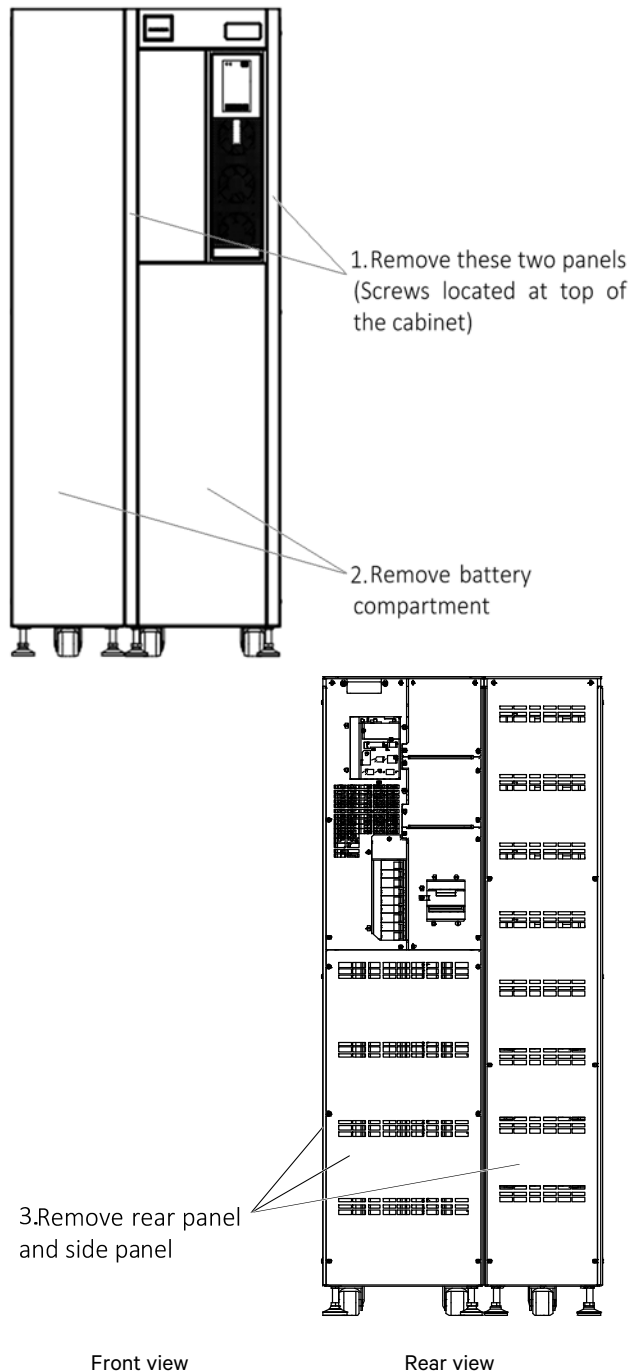

Figure 8-3 Removing the corresponding covers
a) Remove the corresponding covers, as shown in Figure 8-3. Do not throw the screws away